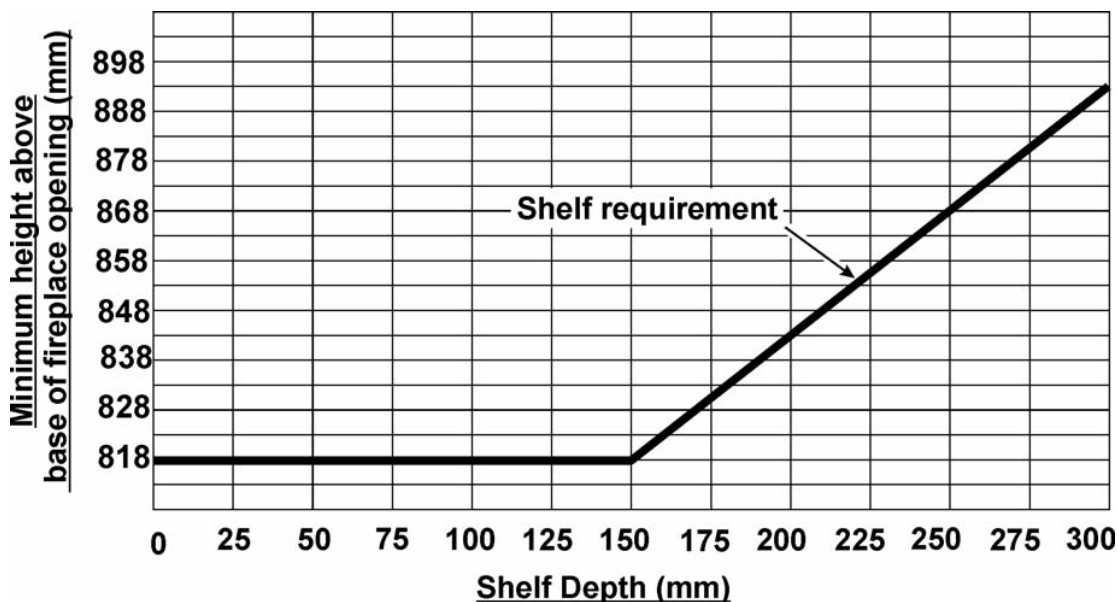

Figure 1. Combustible shelf clearances
Do provide a minimum clearance as shown in Figure 1 above the base of the fireplace opening to any shelf made of wood or other combustible material.
• *For a shelf deeper than 150mm: 818mm + 12.5mm for every 25mm depth over 150mm (See Figure 1).*